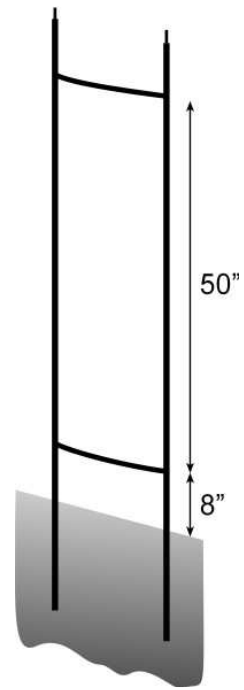

Figure 6: Position of the Spacer Bars
17. Attach 2 spacer bars to each of the uprights. The lower spacer bar should be positioned 8" above ground level, then position the other spacer bar 50" above the lower spacer bar, as shown in Figure 6.